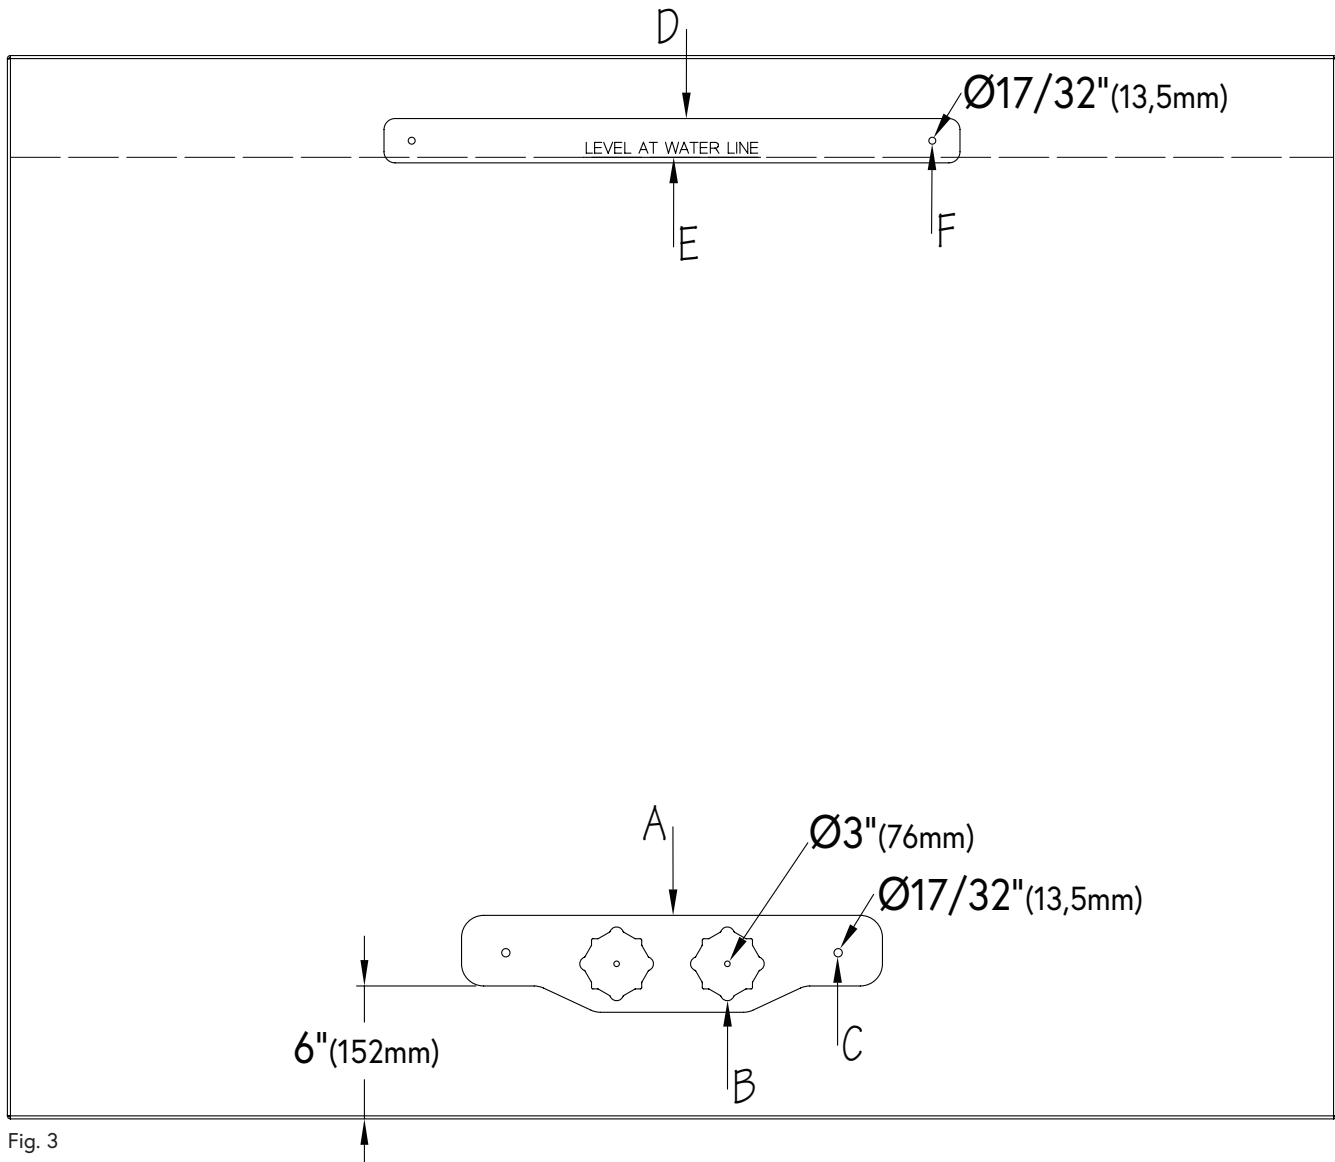

Fig. 3
The Fastlane Tread Mounting Bracket (A) MUST be positioned so that marking, engraved into the bracket, sits 6" (152mm) above the finished pool floor. Be sure that the template is level and use duct tape to temporarily adhere the template to the pool wall. Mark the center points of the two Thru-Wall holes (B) and trace outlines of the two mounting holes (C). Use a 3" (76mm) hole saw to cut the holes for the Thru-Walls and a 17/32" (13,5mm) drill bit to drill the mounting holes (Fig. 3)
Center the Grab Bar Mounting Bracket (D) above the Fastlane Tread bracket. Position so that the "Waterline" marking (E), engraved into the bracket, sits along the pool's expected waterline. Be sure that the template is level and use duct tape to temporarily adhere the template to the pool wall. Trace the outlines of the two mounting holes (F) and use a 17/32" (13,5mm) drill bit to drill holes (Fig. 3).